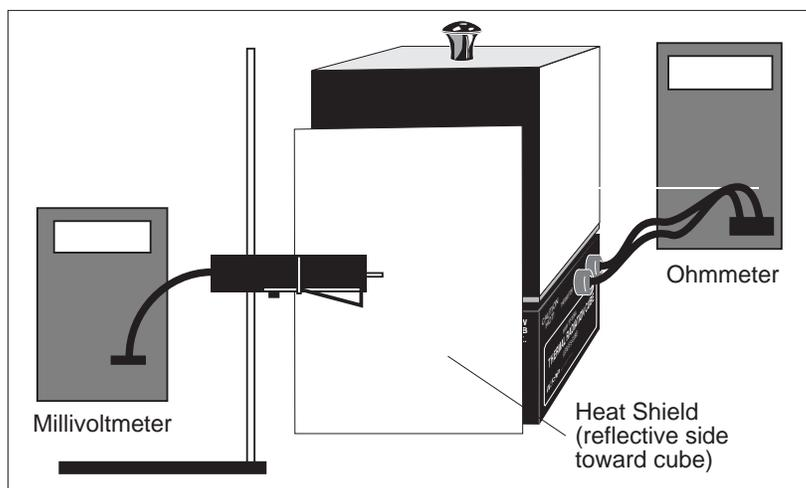

Figure 4.1 Equipment Setup
- ① Set up the equipment as shown in Figure 4.1. The Radiation Sensor should be pointed directly at the center of one of the better radiating surfaces of the cube (the black or white surface). The face of the Sensor should be parallel with the surface of the cube and about 3 to 4 cm away.
- ② With the Thermal Radiation Cube off, measure  $R_{\text{rm}}$ , the resistance of the thermistor at room temperature. Enter this data in the space on the following page.
- ③ Shield the sensor from the cube using the reflecting heat shield, with the reflective side of the shield facing the cube.
- ④ Turn on the Radiation Cube and set the power switch to 10.
- ⑤ When the thermistor resistance indicates that the temperature is about 12 C° above room temperature, turn the power down so the temperature is changing slowly. Read and record  $R$ , the ohmmeter reading, and  $R_{\text{ad}}$ , the millivoltmeter reading. The readings should be taken as nearly simultaneously as possible while briefly removing the heat shield. Record these values in Table 4.1.
- ⑥ Replace the heat shield, and turn the cube power to 10. When the temperature has risen an additional 12-15 C°, repeat the measurements of step 5. Repeat this procedure at about 12-15° intervals until the maximum temperature of the cube is reached.